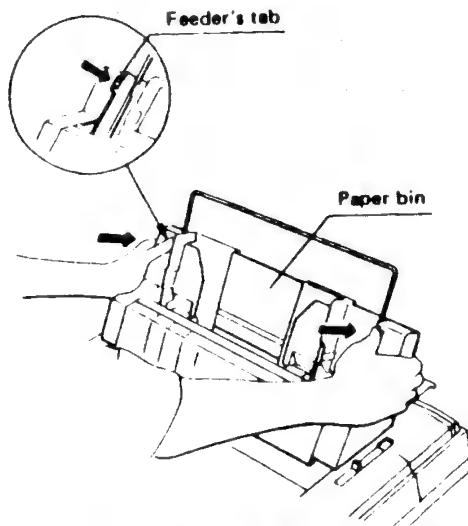

Figure C-7 Opening the Paper Bin
2. Push the Sheet Feeder's tabs, by gripping the whole part, and open the paper bin, refer to Figure C-7.